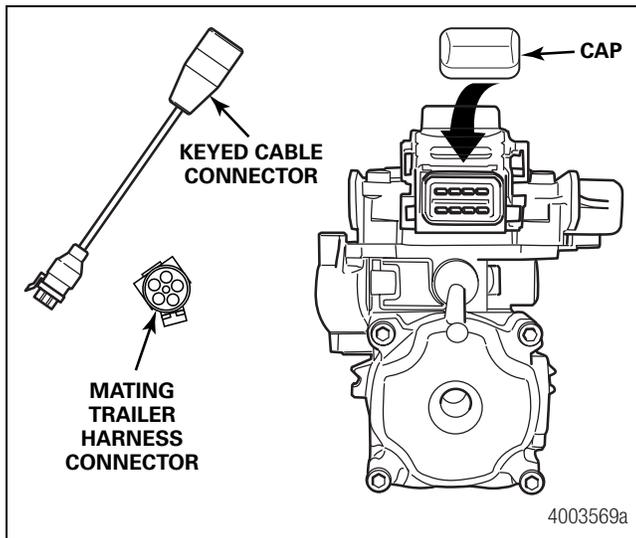

Figure 9
1. Push the hinged power connector retaining clip UP and remove the protective cap from the ECU/modulator valve assembly. Plug the 8-pin connector on the power or power/diagnostics adapter cable into the ECU/dual modulator valve assembly. WABCO identification (lettering on the 8-pin cable connection) must face DOWN. Pull the hinged power connector retainer clip on the ECU/dual modulator valve assembly DOWN to secure the connection. Figure 9.